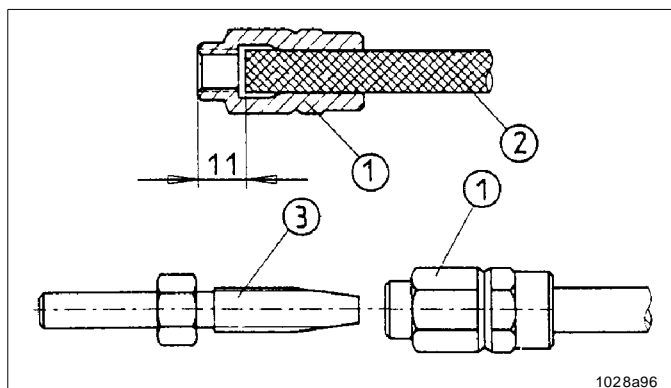

Fig. 5-4 Pre-assembly of the threaded sleeves and hose studs onto the main line
- Screw threaded sleeve 1 (fig. 5-4) counterclockwise onto the high-pressure hose 2 until the illustrated dimension of 11 mm is reached.